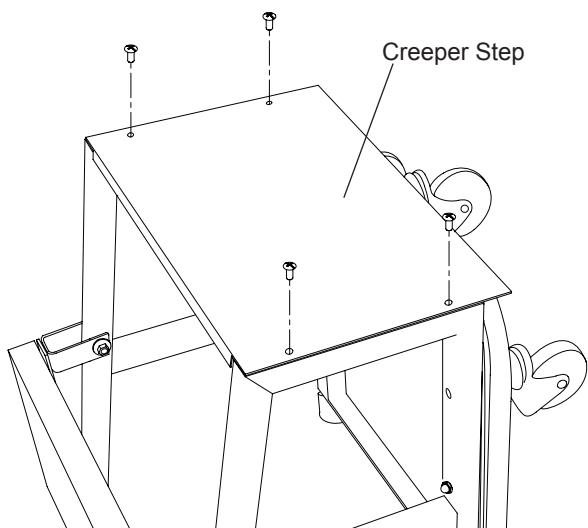

Figure 3 - Attaching Step to Side Frames
3. Fasten creeper step to side frames using four M6 x 16 Phillips head screws (Fig. 3).